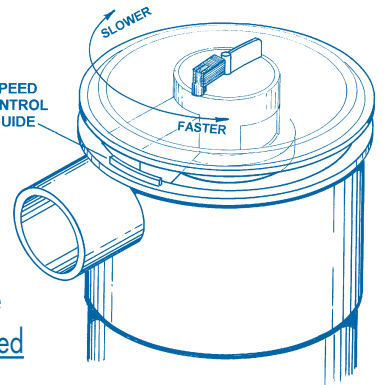

FIGURE 4
4. Cycle time is increased by rotating the lid counter-clockwise and decreased by rotating it clockwise (see figure 4).